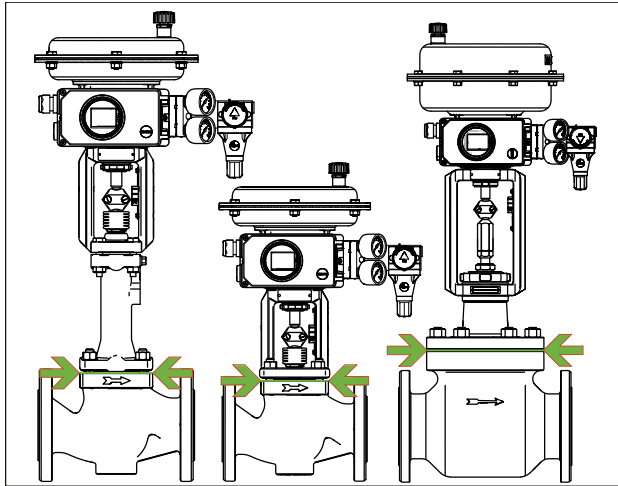

Fig. 13: Limit of insulation for control valves (example shown)
- ⇒ Only insulate control valves up to the bonnet flange of the valve body (see Fig. 13). This also applies to versions with bellows seal or insulating section at medium temperatures below 0 °C or above 220 °C. If the insulating section is insulated, it will not function properly.